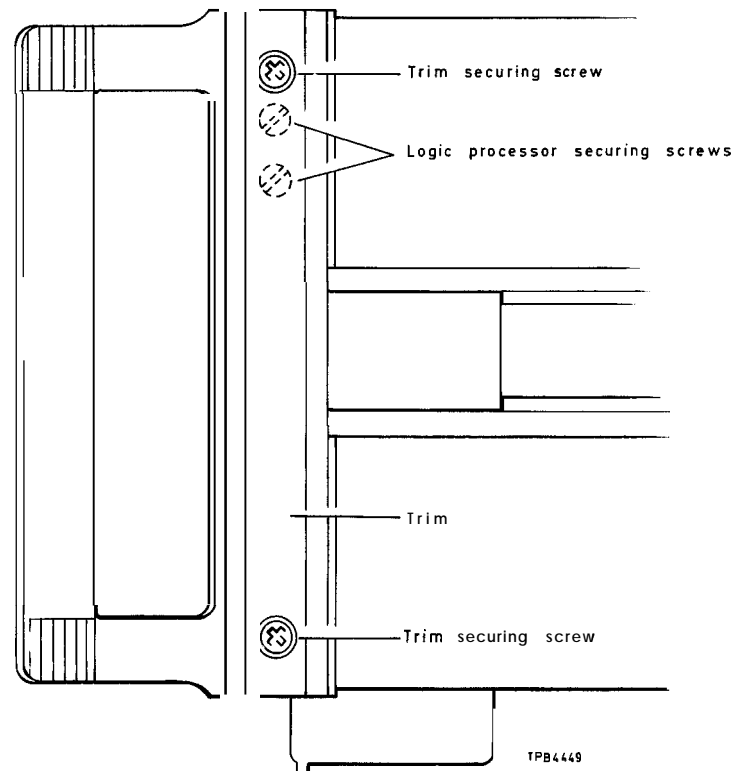

Fig. 1 Logic processor unit *front* securing screws
- (1) Remove instrument outer covers. Both top and bottom covers are easily removed by withdrawing two fastening screws for each cover, these are secured to the rear panel.
- (2) Detach and discard the front and rear feet on the bottom cover.
- (3) Remove the trim strips from the side of both front carrying handles, each of these are held by two countersunk screws, see Fig. 1 below.
- (4) Temporarily remove the right-hand, side handle and side rail as follows:-
- (5) Remove the two front logic processor securing screws from the right-hand front carrying handle, see Fig. 1, and similarly the corresponding screws on the left-hand side carrying handle.